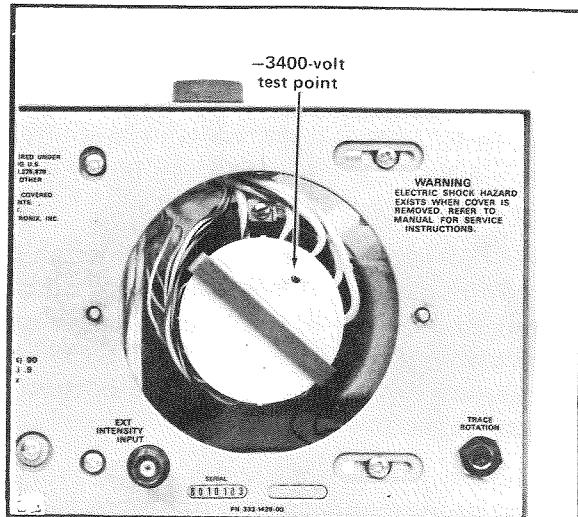
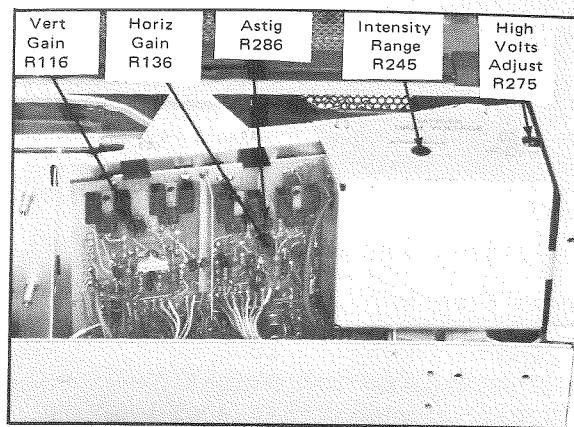

Figure 4-2. 640 Mainframe, -3400V Test Point
Figure 4-3. 640 Mainframe, HV and CRT Display Adjustments
4. Connect a high-voltage probe to the -3400 volt test point shown in Figure 4-2. If the High Voltage is not within  $\pm 170V$  of -3400V, adjust High Volts Adj R275. (See Figure 4-3 for the location of R275.)
2. Adjust Intensity Range R245 fully CCW (Figure 4-3).
5. Adjust Astig R286 and FOCUS control for best definition of the trace on the CRT (Figure 4-3).
2. Adjust Geom R285 so the display dot is circular and in focus (Figure 4-3).
- j. On the mainframe, adjust Vert Gain potentiometer R116 so the display trace is exactly on top of the top horizontal graticule line (Figure 4-3).